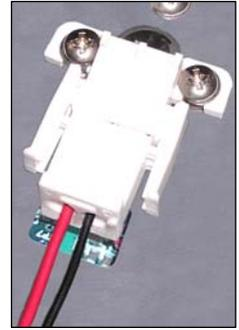

Figure 6A - Battery connector.
1. Identify the battery connector (shown in Figure 6A) on the round plate located on the inside of the top cap.